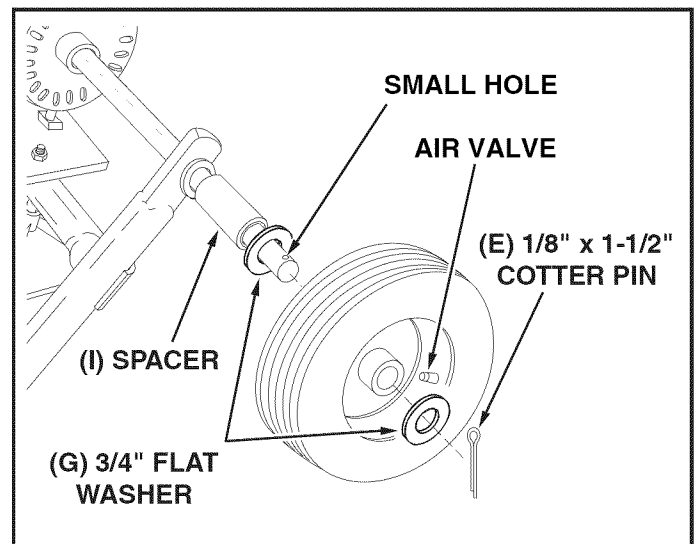

FIGURE 3
STEP 3: (SEE FIGURE 3)
5. Assemble a spacer (I), a 3/4" flat washer (G), a wheel (air valve facing out) and another 3/4" flat washer (G) onto the end of the axle that has only the **small hole**.
6. Install a 1/8" x 1-1/2" cotter pin (E) into the hole in the axle.